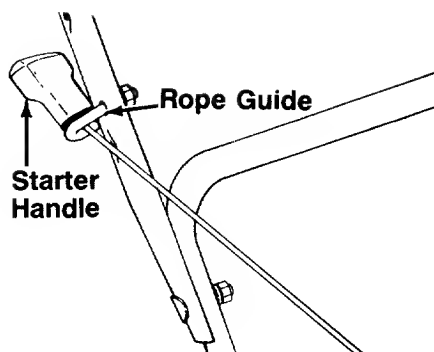

FIGURE 6.
3. Place the rope guide around the starter handle, so the rope guide is positioned as shown in figure 6 (bends downward slightly). Insert the rope guide through the side of the upper handle, and secure with hex lock nut.